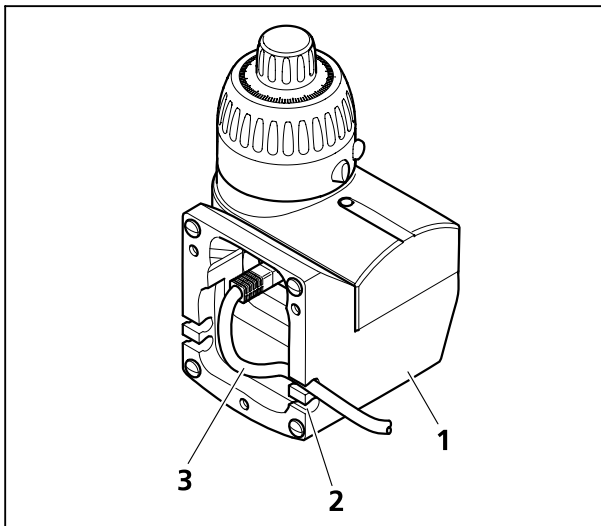

Fig. 30 Connecting the patch cable to MARC mounted to the table-top base
- Connect the patch cable (Fig. 30/3) to the CAN bus connectors of MARC (through the underside of the table-top base, Fig. 30/1) and the motorized focusing drive.
- Lead the patch cable through the table-top base bending it in a radius as large as possible (do not fold it) and pass it through one of the cut-outs (on the right or left, Fig. 30/1) to the outside.